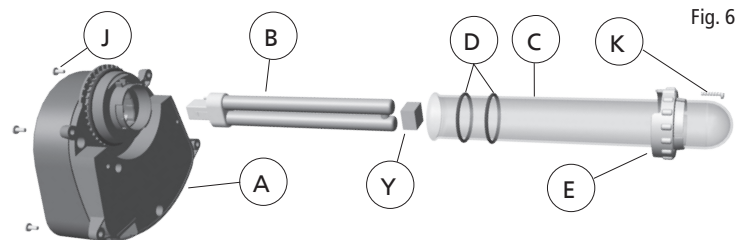

Fig. 6
**Changing the UV-C lamp:** to maintain optimum performance, the UV-C lamp (B) should be replaced every year. An ideal time is Spring, during pre-season pond maintenance.
**Cleaning the Quartz Sleeve:** although only filtered water passes through the UVC section of the Pressure-Flo filter, the quartz sleeve (C) can become coated with limescale, which will diminish the performance of the UV-C lamp (B). It is recommended to check and clean the quartz sleeve (C) on a regular basis. The frequency of cleaning depends on pond conditions. In order to access the UV-C lamp (B) and the quartz sleeve (C), proceed as follows:
4. Remove the UV-C head (A) (Fig. 6) from the filter by unscrewing the 4 screws (J)